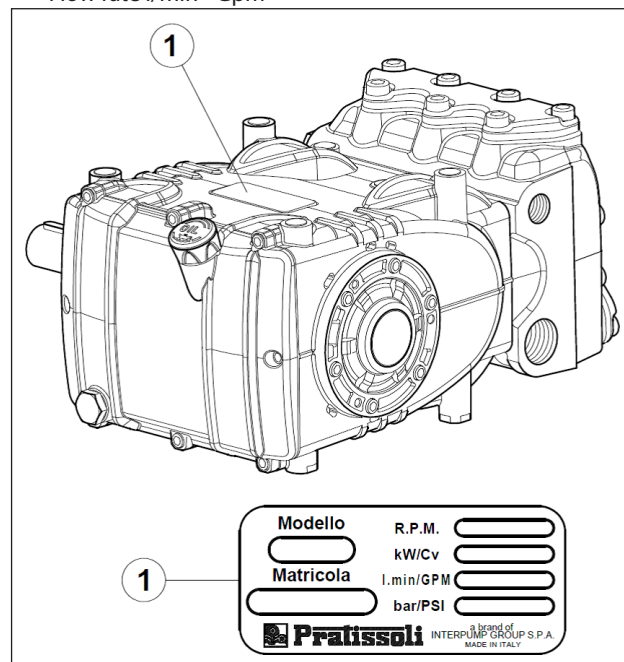

Fig. 1
Each pump has an identification label, see pos. ① of Fig. 1 which shows: